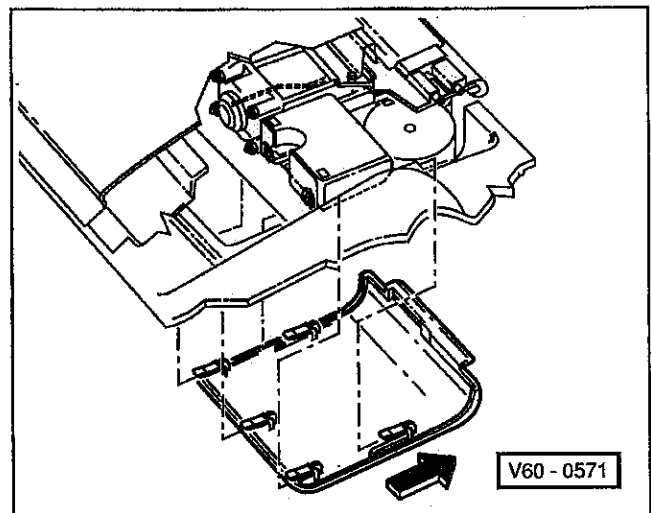

Fig. 10. Remove motor access cover by sliding in direction of arrow.
5. Remove motor access cover by sliding toward rear. See Fig. 10.